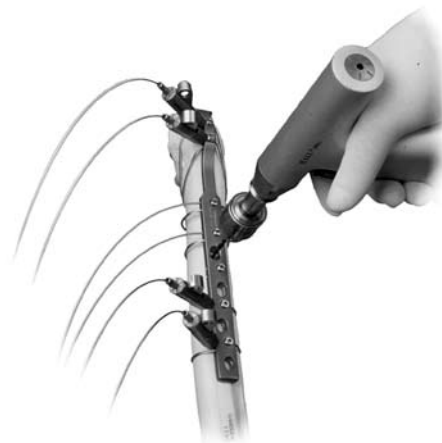

Fig. 16
**Extended GTR Tech Tip #3** - Once the cables are pre-tensioned and the fracture is reduced, cortical screws can be inserted through the applicable slots in the GTR (Fig. 16). Screws add rotational stability, while cables add bending strength to the construct. Because cables do not provide rotational stability, cortical screws should always be used on both sides (proximal and distal) of the fracture, even if only unicortical screws are used (4.5mm Trilogy® Acetabular System Cortical Bone Screw Fixation or NexGen® Complete Knee Solution Osteotomy Screws are recommended). Cables should not be locked down until after screws are added, because the addition of screws will fixate the GTR to the bone and may loosen the tension in the cables.